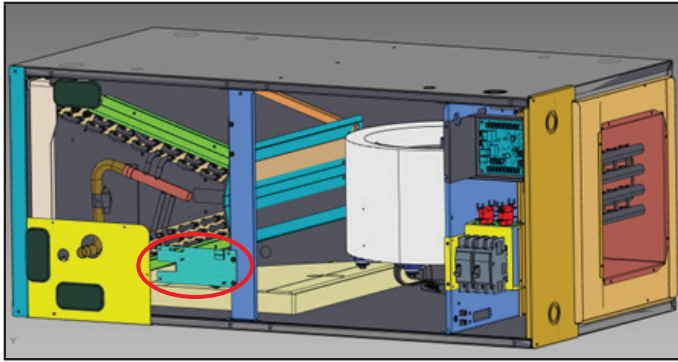

FIGURE 8
- 8 - Install bracket/sensor assembly to the unit by lining up the holes in the center support bracket as shown in figure 8.